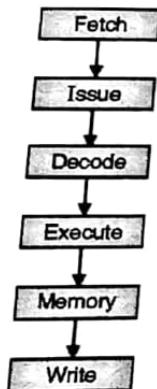

Fig. 11.10.6 : Six stage pipeline of ARM10 processor
- The pipeline of ARM10 processor has six stages fetch, issue, decode and read register, execute shift and ALU, memory access and multiply, write register as shown in Fig. 11.10.6 :